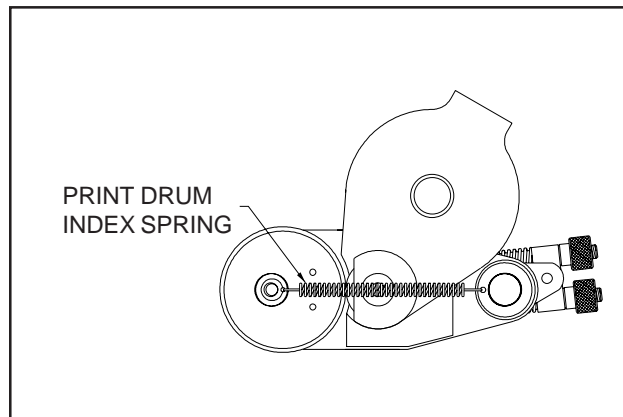

FIGURE 1
**Indexing coders** contain a print drum spring return mechanism which provides print registration capabilities when carton printing (see Figure 1). As the trailing edge of a carton passes the coder, the print drum automatically rotates back to the same starting or "home" position. There must be adequate space between cartons at any given line speed for this mechanism to work properly. Printing with an indexing coder will allow the imprint on each carton to be registered in the same position relative to the leading edge of the carton. The code will repeat every 9.1" down the length of the carton.